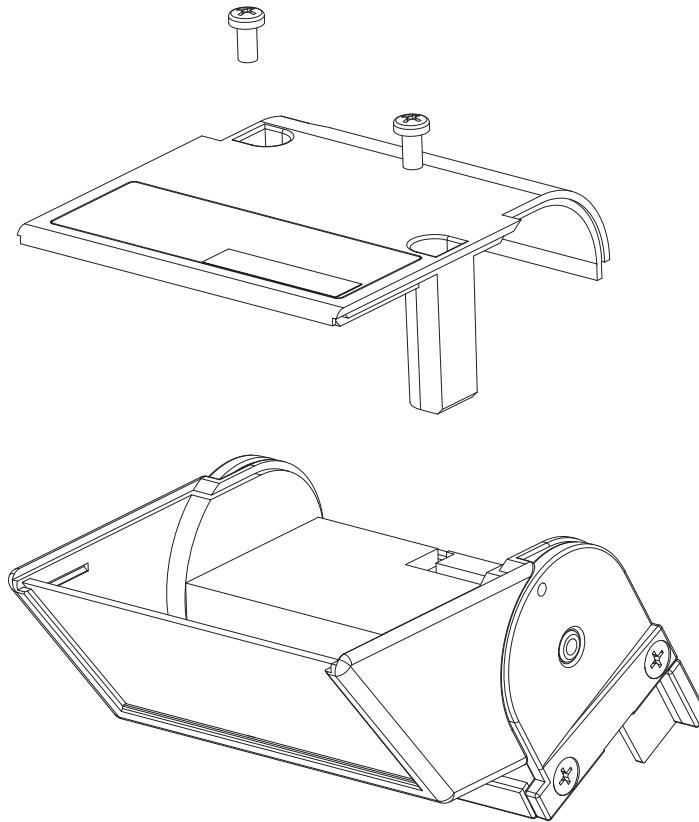

Figure 24. Removing the scanner window
4. Loosen the screw (**B** in Figure 24 on page 38) securing the scanner.
1. See Figure 24. Remove the two Phillips-head scanner cover screws.